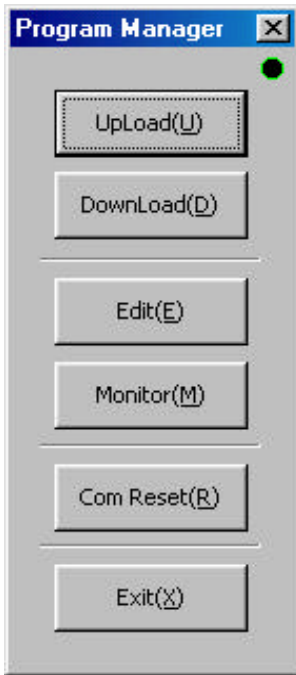

Figure 7.30 “Program Manager” dialog box
Click “*Program (G)*” under “MainMenu” to display the “Program Manager” dialog box (see Figure 7.30).